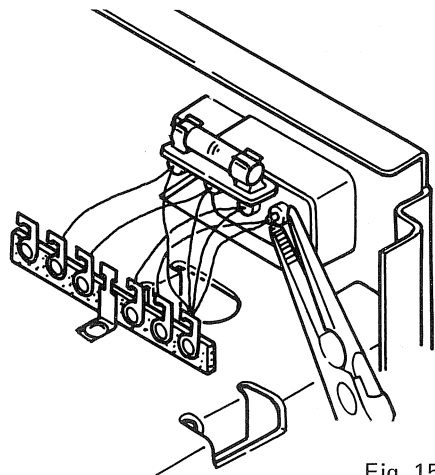

Fig. 15
2. Hold the metal bottom of the lamp with a pliers, and pull it out of the socket (Fig. 15).